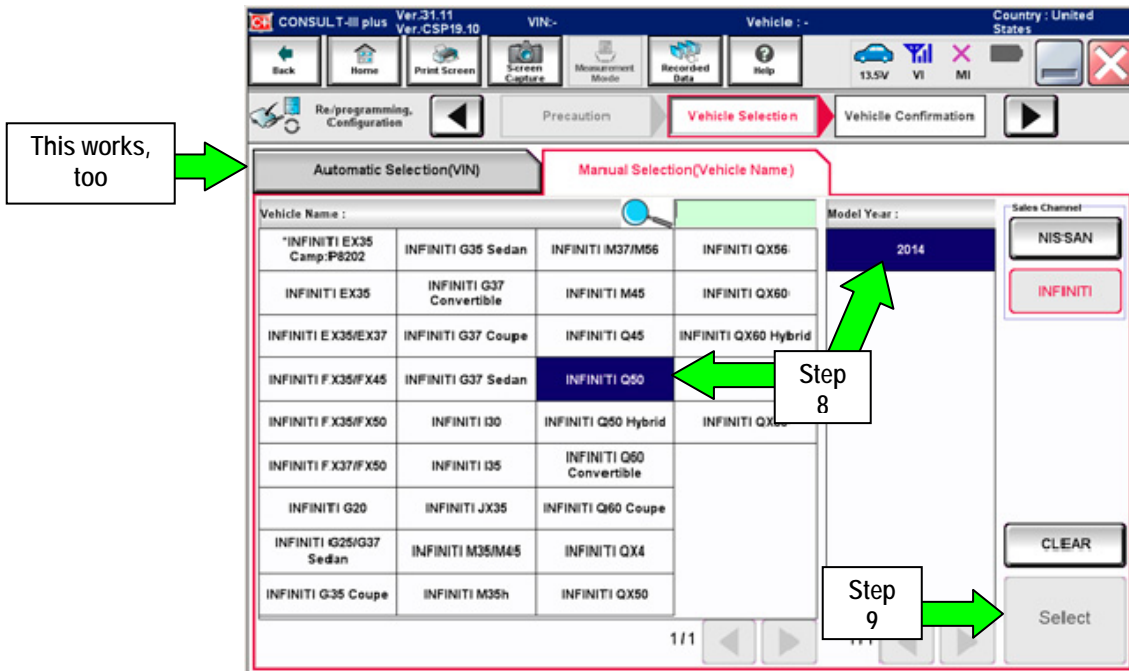

Figure 3
- If **Automatic Selection (VIN)** is selected, or the screen in Figure 3 does not display, skip to step 10.